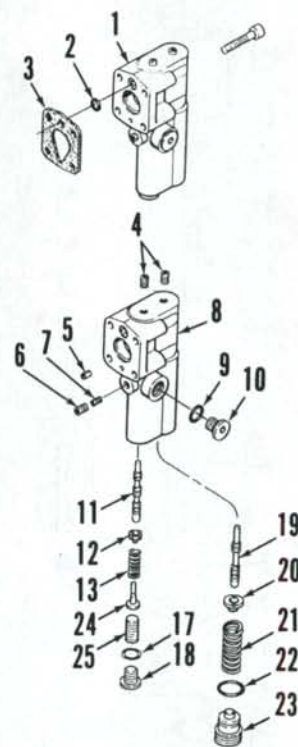

Fig. 249—Exploded view of pump compensator section of dual hydraulic pump used on Models 2094, 2294, 2394 and 2594.
244. OVERHAUL PUMP COMPENSATOR (2094, 2294, 2394 and 2594). To disassemble pump compensator, remove seal wire from end of compensator. Refer to Fig. 249. Index high pressure adjustment plug (23) with body (8) so number of turns needed to remove plug can be recorded for aid in reassembly. Remove adjustment plug (23), spring (21), seat (20) and high pressure spool (19). Remove plug (18) with "O" ring (17) and index screw (25) with body (8). Count and record number of turns needed to remove adjusting screw (25). Remove spring seat (24), spring (13), seat (12) and stand-by pressure spool (11). Remove cover plug (10), orifice plug (6) and orifice (7). Remove plugs (4) if necessary.